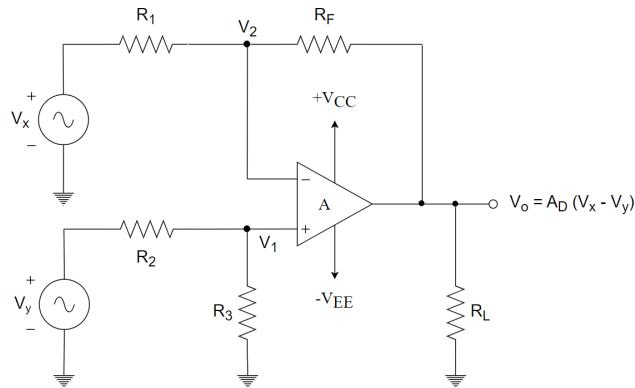

Figure 4.4: Circuit of differential amplifier
- Connect the circuit as shown in Fig. 4.4.